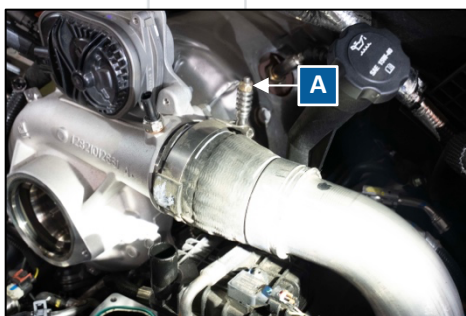

Figure 24: Charge Air Cooler Pipe
39. Remove charge air cooler pipe from turbo outlet, 11mm hex nut and set to the side (labeled as A in Figure 24).